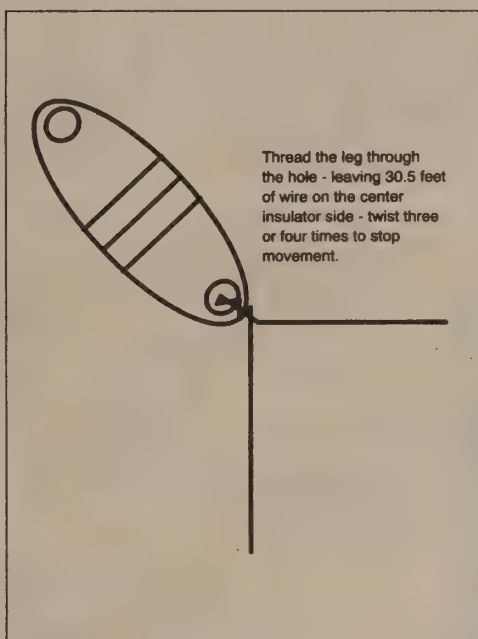

Figure 2.
Step 4. Thread an end insulator onto each of the 80 meter legs and position each 30.5 feet from the feed point, as shown in Figure 2.